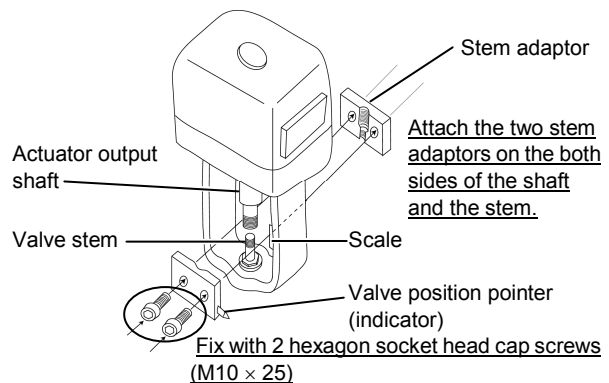

Figure 6. Connecting actuator output shaft and valve stem
4. Connect the actuator output shaft and valve stem together with the stem adaptor. (See Fig. 6.)